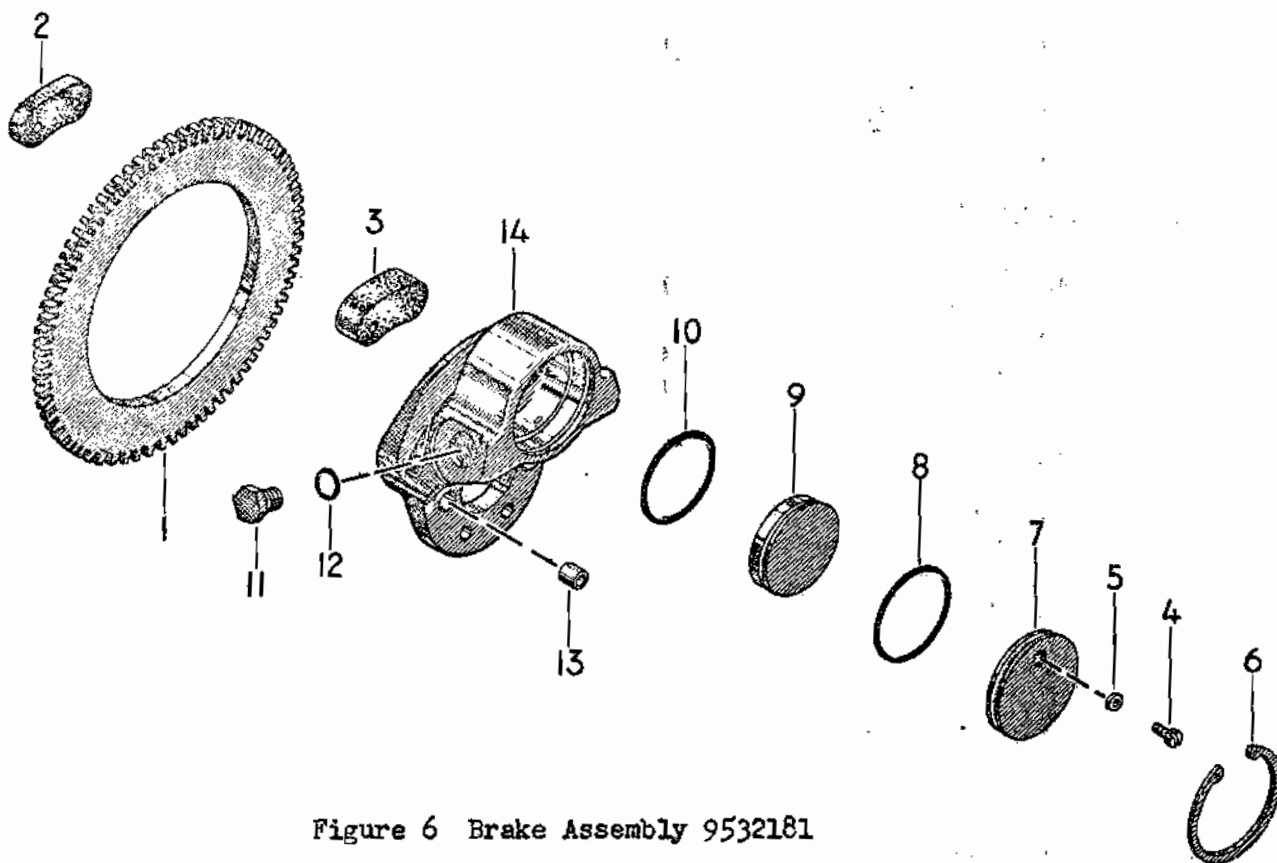

Figure 6 Brake Assembly 9532181
#### 4-1 REPLACING BRAKE LININGS (See Figure 6)
#### 4-2 DISASSEMBLY - Brake 9532181 (See Figure 6).
#### 4-4 REASSEMBLY - Brake 4532181 (See Figure 6)
- a. Lubricate the cylinder walls of the brake housing (14), the contacting surfaces of the piston (9) and cylinder head (7) with a thin coat of MIL-L-7711 grease.
- b. Lubricate the cylinder head O-ring seal (8) with MIL-L-7711 grease (or equivalent) and install in groove provided in the cylinder head (7).
- c. Lubricate the piston O-ring seal (10) with MIL-L-7711 grease (or equivalent) and install it on the piston (9).
- d. Install the piston (9) in the brake housing (14) with the thick section of the O-ring groove towards the brake lining.
- e. Position the cylinder head (7) on the brake housing (14) and secure with retainer ring (6).
- f. Install the thicker brake lining (3, Figure 6) on the piston side of the brake housing (14, Figure 6) with the part number (molded in the lining) facing the piston, so that the smooth side will be in contact with the disc.
- g. Install the thinner brake lining (2) on the anvil side of the brake housing (14) with the part number (molded in the lining) facing the anvil, so that the smooth side of the lining will be in contact with the disc (1).
- h. Install the brake disc (1) between the brake linings (2 and 3).
- i. Install the inlet gasket (12) on the inlet plug (11) and screw the plug into position in the brake housing (14).
- j. Place the bleeder screw seals (5) in bleeder screws (4) and install the screws in the cylinder head (7) completing the reassembly.